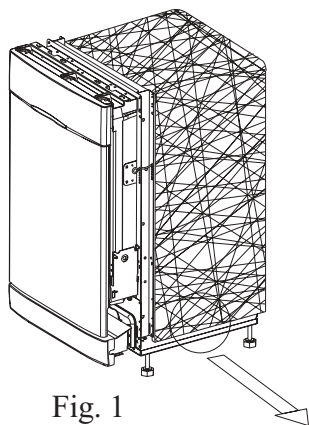

Fig. 1
- The overflow container is located at the lower right side of the dishwasher. (See Fig. 1)